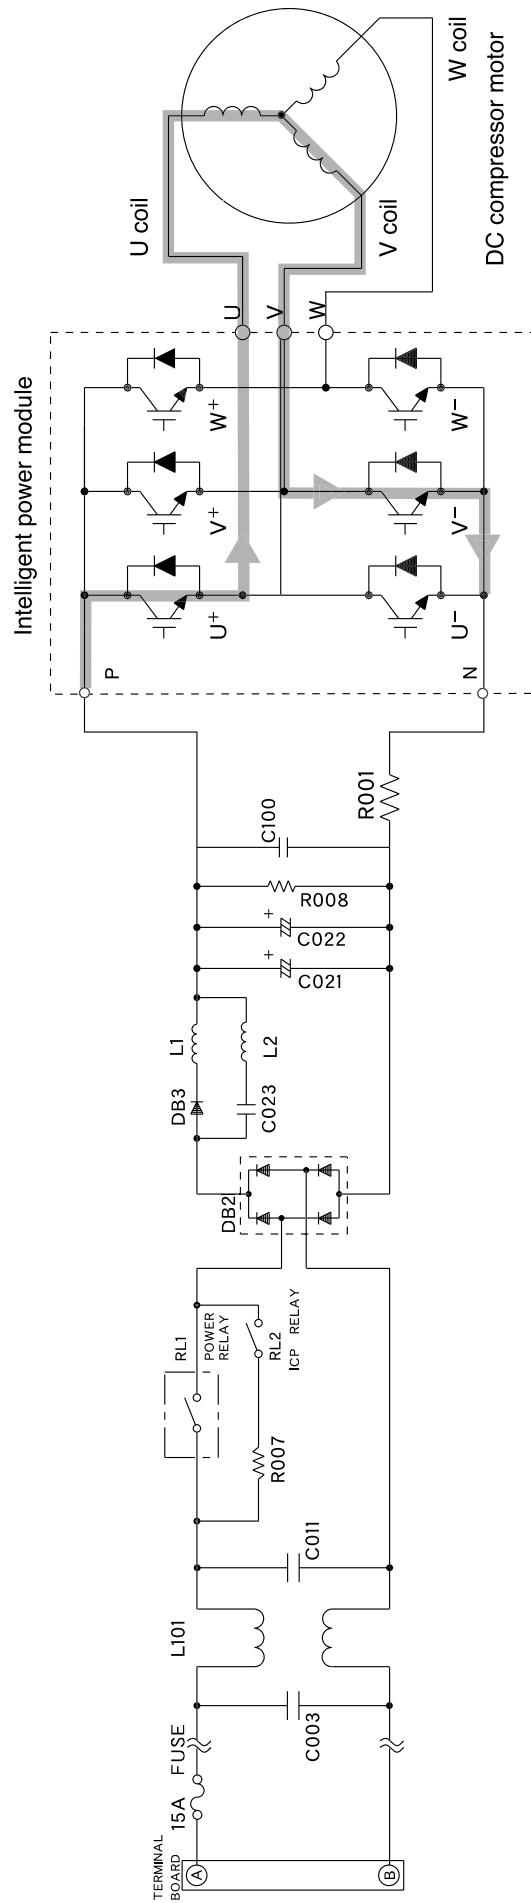
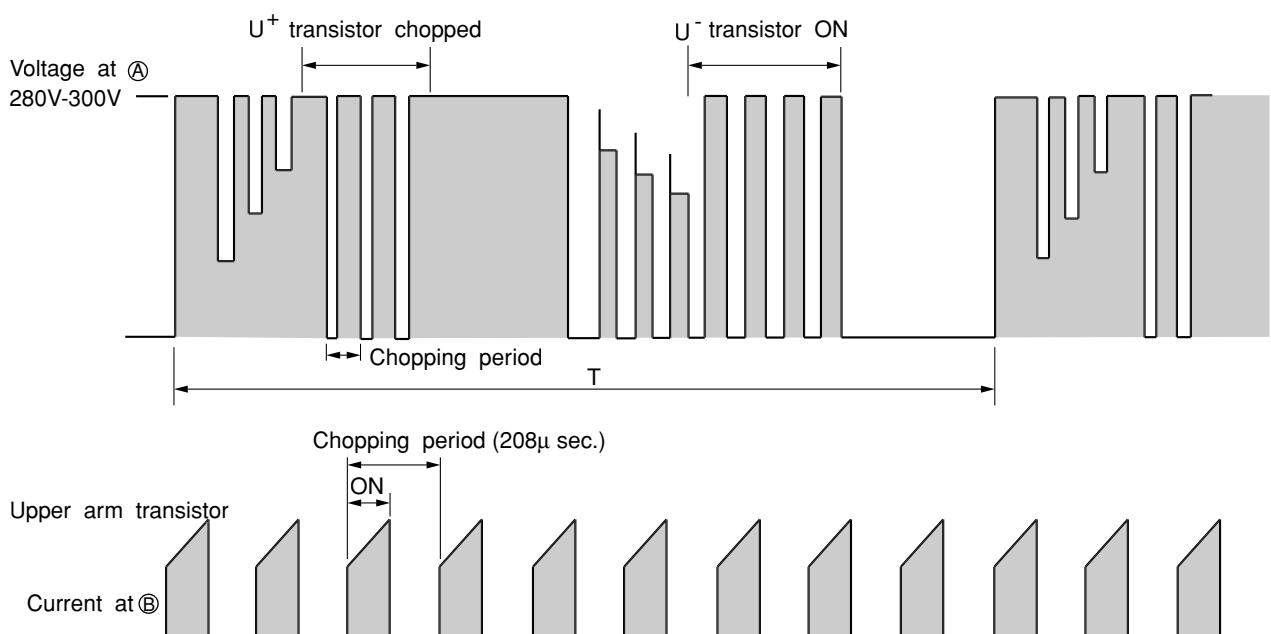

Fig. 3-1 System power module circuit ( $U^+$  is ON,  $V^-$  is ON)
Fig. 3-3 Voltage waveform at each point
Fig. 3-1 shows peripheral circuits of intelligent power module (IPM).
At point ⑤: U+ is ON, V- is ON (circuit in Fig. 3-1)
Fig. 3-3 shows voltage waveform at each point shown in Figs. 3-1 and 3-4. First half of upper arm is chopper, second half is ON, and first half of lower arm is chopper, second half is ON.
- (1) When U+ transistor is ON: U+ transistor → U coil → V coil → V- transistor → DC current detection resistor → Point ⑧ (Fig. 3-3)
Since current flows at point (B) only when  $U^+$  transistor and  $V^-$  transistor are ON, the current waveform at point (B) becomes intermittent waveform as shown in Fig. 3-3. Since current at point (B) is approximately proportional to the input current of the air conditioner, input current is controlled by using DC current ( $Id$ ) detection resistor.